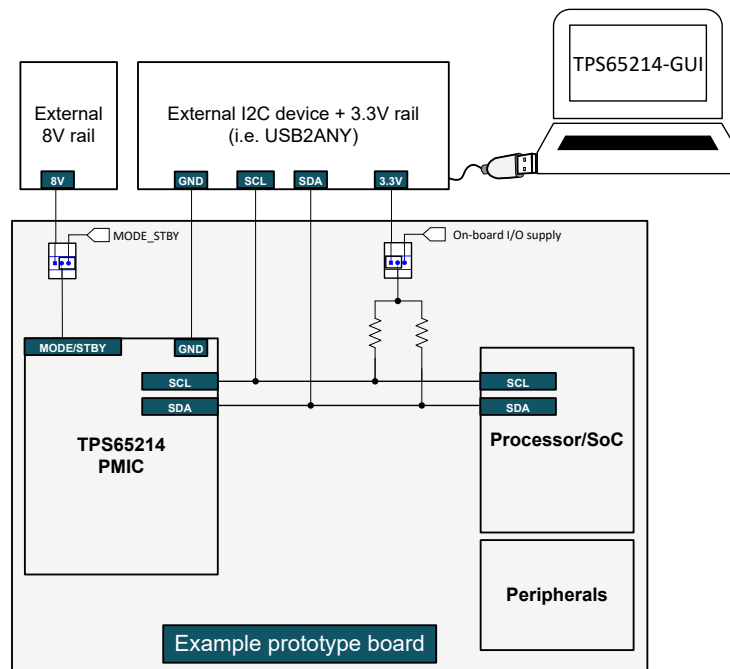

Figure 3-2. Prototype Example
- **Prototype board:** The user-programmable TPS6521405 NVM comes with all the power resources inactive by default and the EN/PB/VSENSE pin configured as push-button with without FSD (PU_ON_FSD = 0x0). If this pin is pulled up to VSYS, PMIC stays OFF (Initialize state) when a valid supply is connected to VSYS. This configuration allows the reprogramming of the NVM before the power-up sequence is executed. Figure 3-2 shows what customers need to include in the prototype board to re-program the PMIC NVM. The components required include three test points on GND, SCL, SDA, and two 1x3 single row header connectors. One of the header connectors must allow the pull-up supply to switch between the external 3.3V rail and the PMIC rail that supplies the I2C pins in the normal application. An additional header connector must be included to switch between the normal MODE/STBY operation and an external 8V source for the NVM programming step.